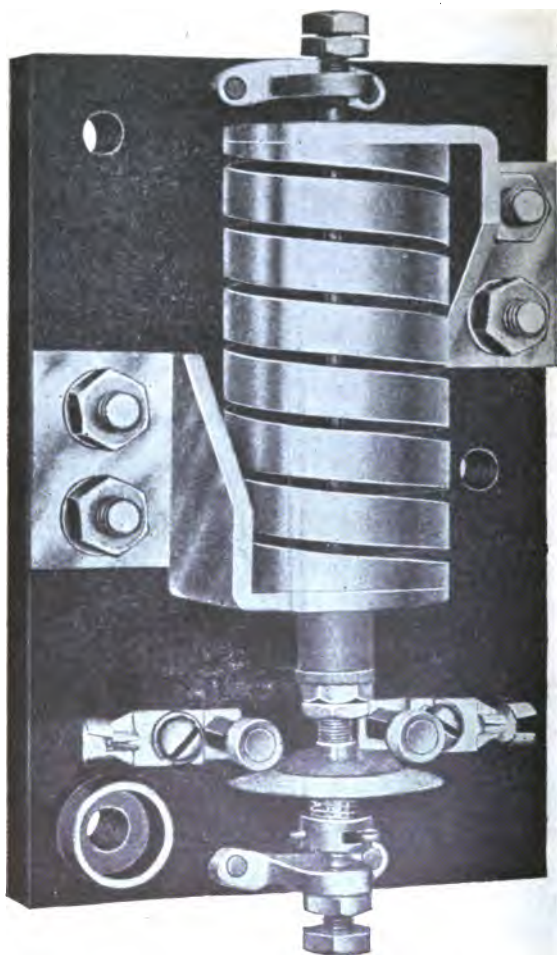

Fig. 519. Current Limit Relay for Locomotive.
68. THE CURRENT LIMIT RELAY (Fig. 519) is located just above the No. 1 reverser and is provided for the purpose of checking a too rapid movement of the controller handle in getting the train up to speed. The relay coil is connected in series with No. 2 motor circuit. If the current through the motor exceeds a certain amount, the plunger of relay picks up and closes a set of contacts which supplies current to the controller governor. The controller handle is thus held from being moved on and cannot be moved another notch until the current through the motor falls to a certain amount.